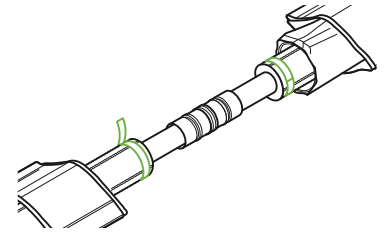

Fig. B12.2.4
4. Remove the protective foil (not transparent) from the adhesive bands. Wrap them around the entire circumference of the outer casing between the marked lines and outer casing ends on both pipes (Fig. B12.2.4).